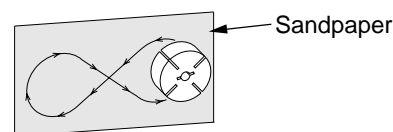

Figure 28 - Sanding Rotor
14. Place fine grade sandpaper (600 grit) on flat surface. Sand rotor lightly in "figure 8" motion four times (see Figure 28).